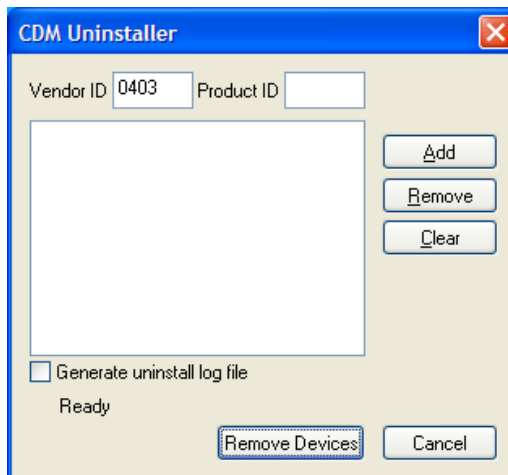

Figure 29 – Changing Product ID window
- Leave the Vendor ID as 0403 and delete the entry 6001 in the Product ID box to leave it blank as shown in Figure 29.
| Figure 29 – Changing Product ID window..... | 45 |